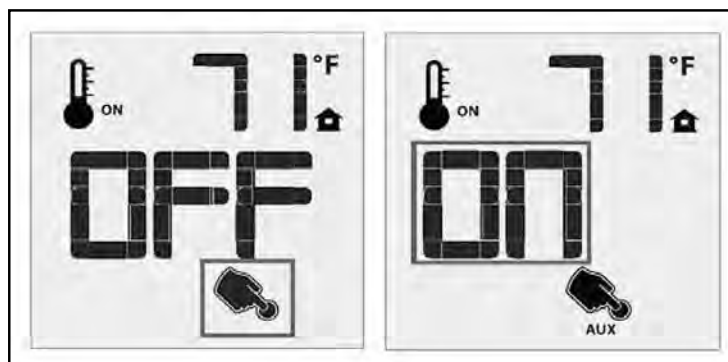

Figure 114: Remote Control with Aux for Accent Lights.
The DV46 is shipped with two (2) firebox accent lights. They are connected to the auxiliary power outlet of the Proflame Fan Control Module. The lights can be turned on or off using the Auxiliary function on your remote control. Press the Mode Key on the remote control until the Auxiliary Function icon is highlighted. Pressing the Up or Down arrow keys will turn the accent lights on or off. See Figure 114 for the AUX icon details. A single “beep” will confirm the reception of the command.